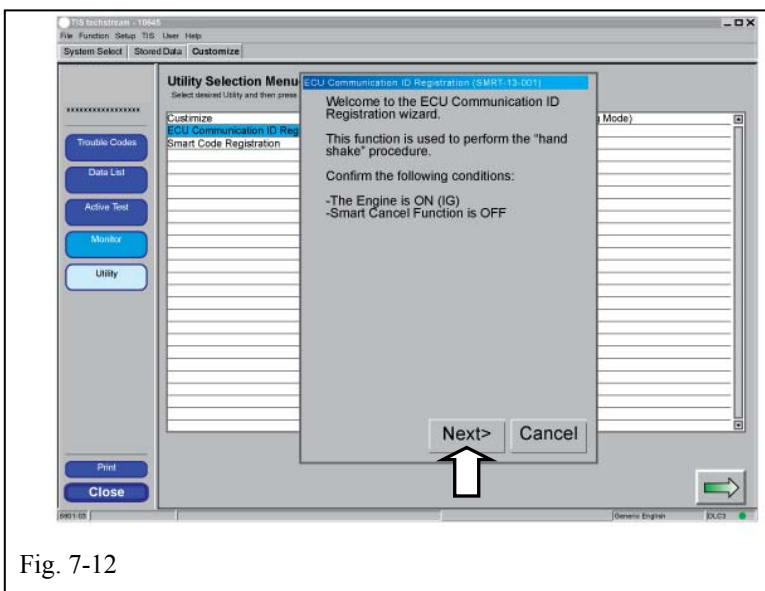

Fig. 7-12
(x) Confirm that the Engine is ON (IG), and that the Smart Cancel Function is OFF. (Fig. 7-12)
(y) Click “Next>” to continue. (Fig. 7-12)